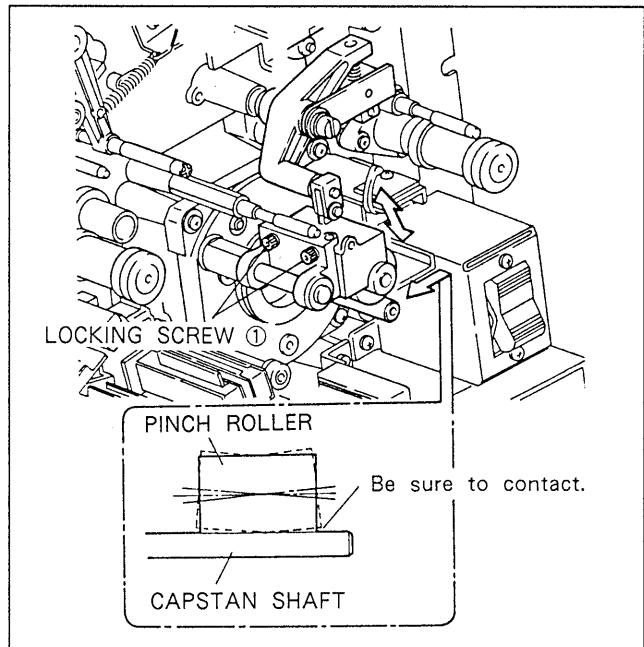

Fig. 6-11-2. Pinch Roller Slantness Adjustment
5. Loosen the two locking screws ① about a half turn as shown in Fig. 6-11-2.